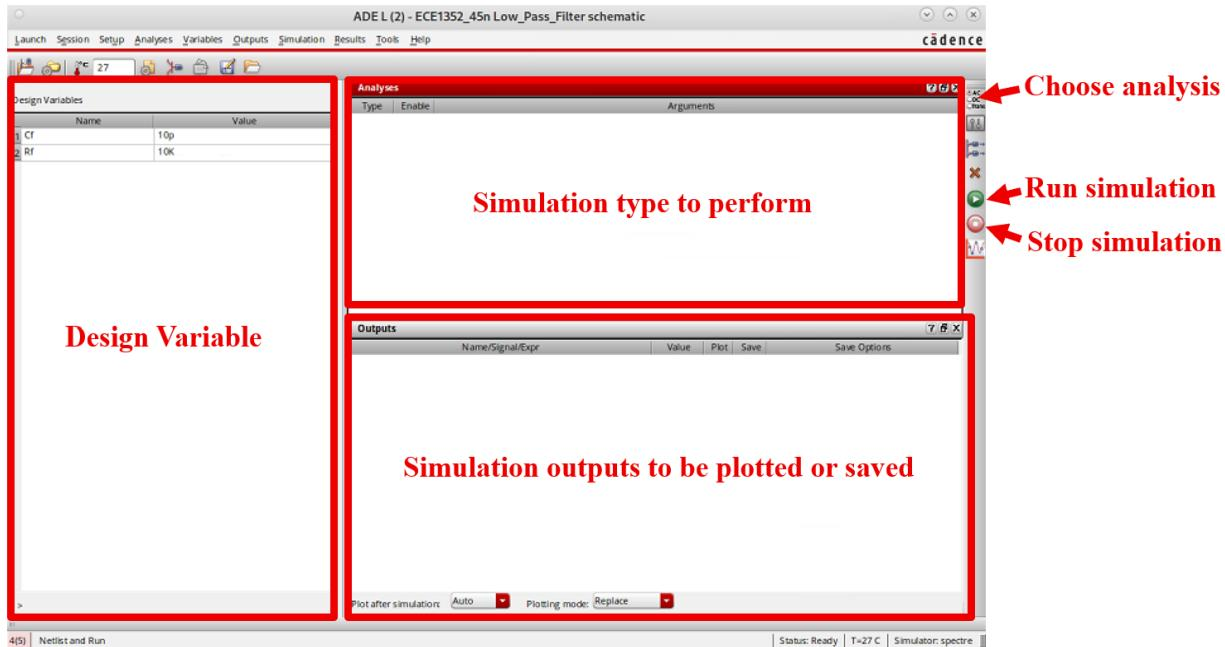

Fig. 14. ADE window
To open the simulation window, click on “Launch >> ADE L” in the main schematic window. The ADE window pops up (Fig. 14).
- “Variables” menu helps you to configure different variables you used in your design. To see a list of all variables you used click on “Variables >> Copy From Cellview”. The list of variables will be shown in “Design Variables” box (Fig. 14).
To perform AC simulation, click on the “choose analyses” from right panel and select AC (Figure 14). We will sweep the frequency in a logarithmic scale from 10k to 10G. Fill the “Sweep Range” box as shown in Fig. 17. Click on OK and then run the simulation. Since we chose the input AC magnitude to be 1, simply the output voltage will show the transfer function of the low pass filter.